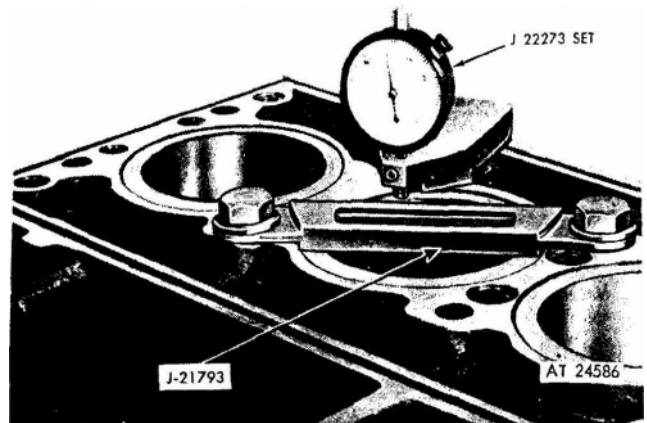

Figure 5. Checking distance of liner flange below top face of block.
3. Clamp the liner in place with hold-down clamp J 21793 and measure the distance from the top of the liner flange to the top of the block with tool J 22273 which consists of dial indicator J 7333-22 and holder J 4209-25 (fig. 5). The top of the liner flange should be .0465" to .050" below the top of the block; and there must not be over .0015" difference between any two adjacent liners when measured along the cylinder longitudinal center
3. If any of the pistons and liners are already in the engine, use hold-down clamps (fig. 5) to retain the liners in place when the crankshaft is rotated.